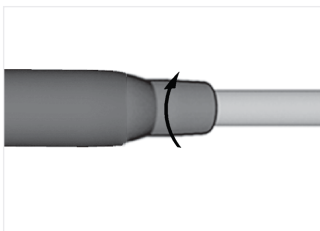

FIG. 3
3. Holding the motor fully screw the hose sleeve to the rear motor connection **FIG. 3**.